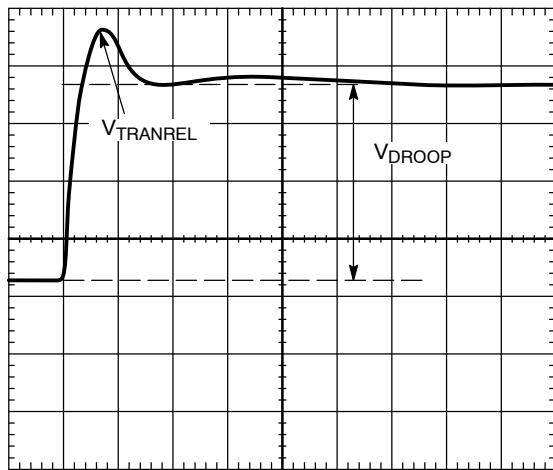

Figure 30. Transient Setting Waveform, Load Release
- For load release (see Figure 30), if V_{TRANREL} is larger than the value specified by IMVP-6+, a greater percentage of output capacitance is needed. Either increase the capacitance directly or decrease the inductor values. (If inductors are changed, however, it will be necessary to redesign the circuit using the information from the spreadsheet and to repeat all tuning guide procedures).